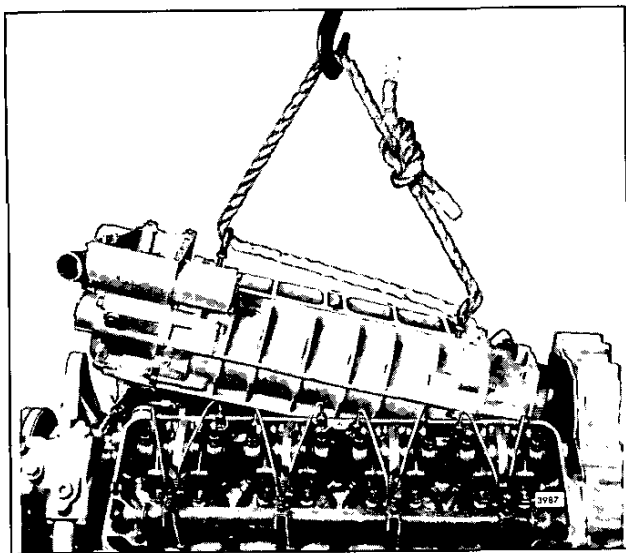

Fig. 4 - Removing Blower from Engine
- a. To install the blower and governor on the engine without disturbing the gaskets and seal, use guide studs (Fig. 4). Install the guide studs in the end blower bolt holes in the cylinder block.
24. Thread eyebolts in diagonally opposite air inlet adaptor-to-blower bolt holes. Attach a rope sling and a chain hoist to the eyebolts. Then lift the blower assembly, at an angle, from the cylinder block as shown in Fig. 4 and place it on a bench.